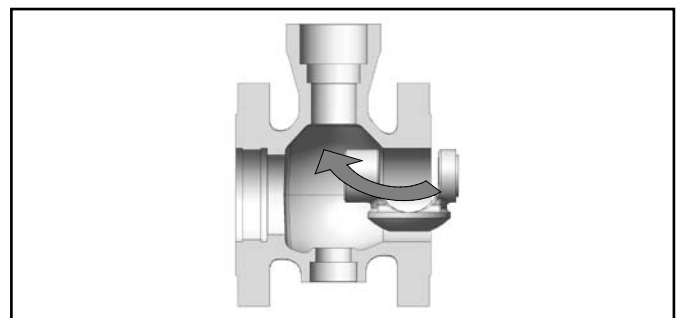

Figure 2b: Plug Installation
- 7.5 Insert the plug in the body as shown in figure 2b.
- ! **NOTE:** The end post bearing (item 84) is pressed into the plug.